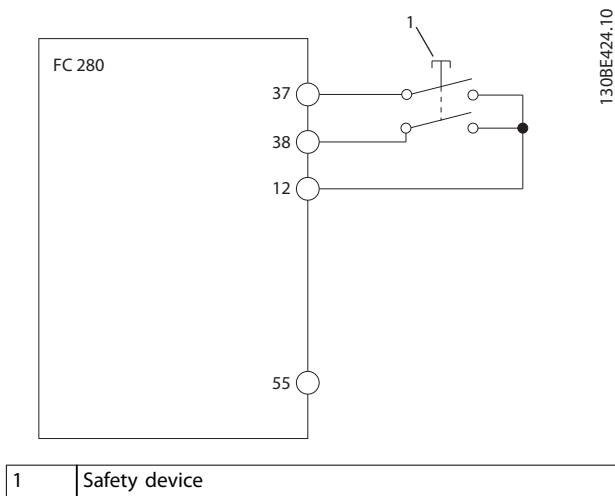
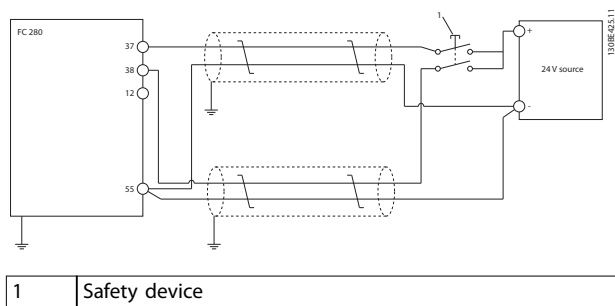

Figure 6.4 STO Wiring in 1 Cabinet, Adjustable Frequency Drive Provides the Supply Voltage
Figure 6.5 STO Wiring, External Supply
2. Connect a dual-channel safety device (for example, safety PLC, light curtain, safety relay or emergency stop button) to terminals 37 and 38 to form a safety application. The device must comply with the desired safety level based on the hazard assessment. Figure 6.4 shows the wiring schematic of STO applications where the adjustable frequency drive and the safety device are in the same cabinet. Figure 6.5 shows the wiring schematic of STO applications where external supply is used.